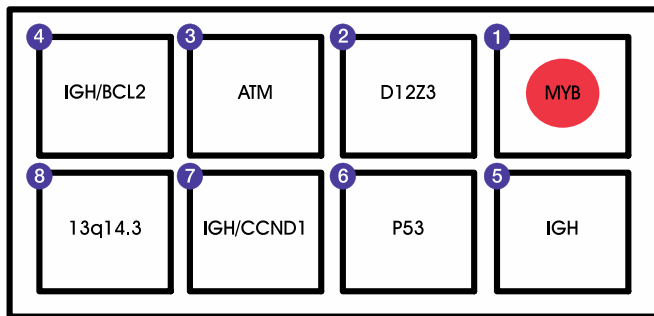

Figure 1. Location of the probes on the Multiprobe CLL Panel (RUO). To help locate square 1, its position on the device has been marked with a coloured label.
- c) Immerse template slides containing fixed samples in 2xSSC for 2 minutes at room temperature (RT) without agitation.
- a) Carefully invert the template slide over the device such that the number 1, which is now upside down, is located over the top right hand area of the device (Figure 1).